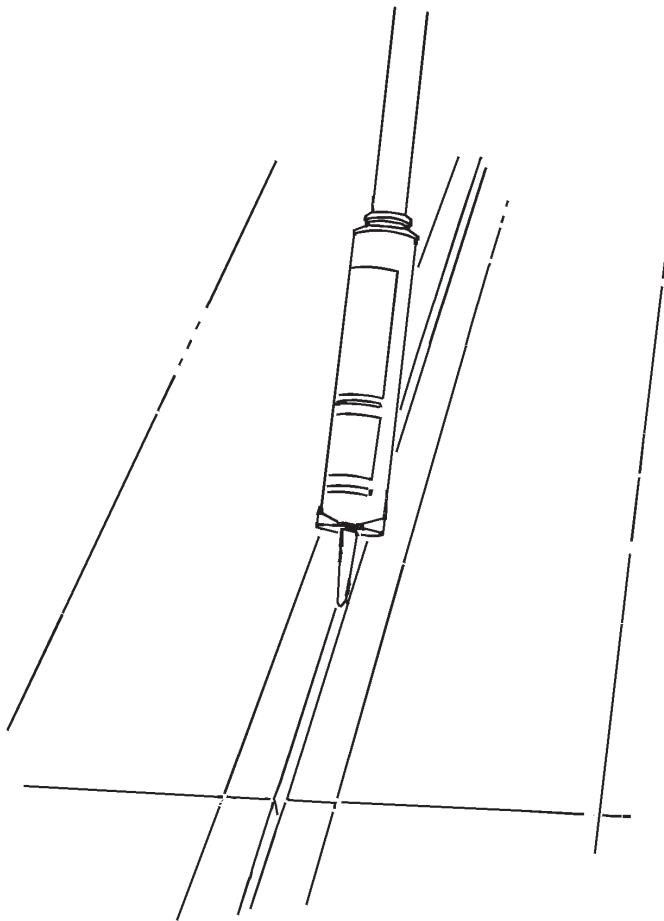

Figure 15. Sealing the Filler Rod
7. Pump the sealant along the top of the filler rod [Figure 15 on page 21]. Move the nozzle along the joint pushing the sealant ahead to form a uniform bead. Fill the joint from the top of the filler rod to 3/8 inches below the pavement surface.